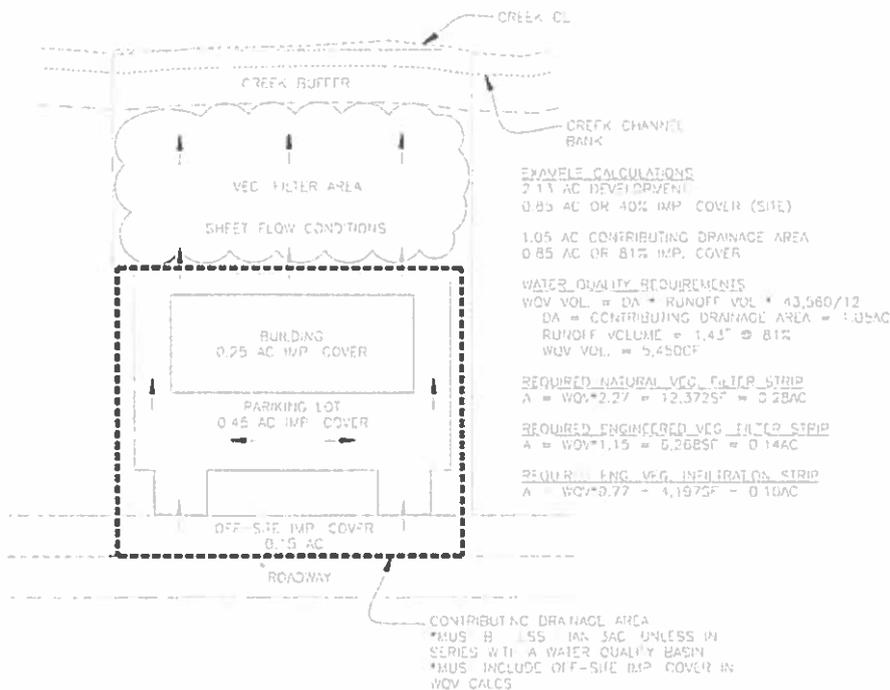

Figure 4-13: Example of Stand Alone Vegetative Filter Strip Application
- Filter strips can be utilized as a stand alone BMP when treating small developments of less than 3 acres (Commercial Alternate Standards) and with a contributing drainage area of less than 3 acres. See Figure 4-13 below;